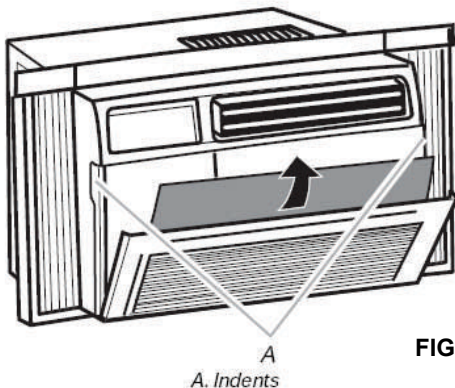

FIG. 13
4. For added insulation, cut the supplied insulation foam to the width of the window. Insert the foam between the window sashes to prevent air and objects from getting into the room. (See FIG. 13)
1. Remove the filter by pulling down on the indents of the filter door on the front of the unit. (See FIG. 13)